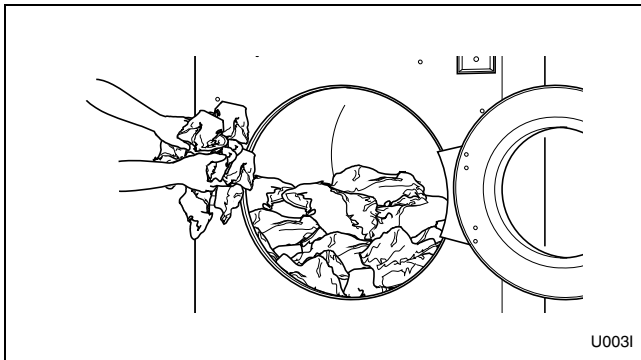

Figure 32
3. Load to capacity whenever possible. **DO NOT OVERLOAD.** Refer to *Figure 32*.